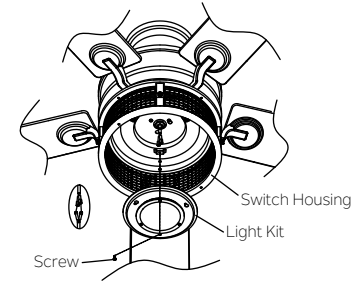

Fig. 20
Step 1. Remove 1 of the 3 screws from the switch housing and loosen the other 2 screws (do not remove). (Fig. 20)
Step 2. Hold the light kit close to the switch housing and connect the WHITE wires from the light kit and fan by pushing the connectors together. Follow the same procedure with the BLACK wires. (Fig. 20)
Step 3. Tuck the connections neatly into the light kit. Align the slot holes on the light kit and switch housing. Rotate the light kit until it locks in place at the narrow end of the key holes. Securely by tightening the 2 screws previously loosened and the one previously removed. (Fig. 20)